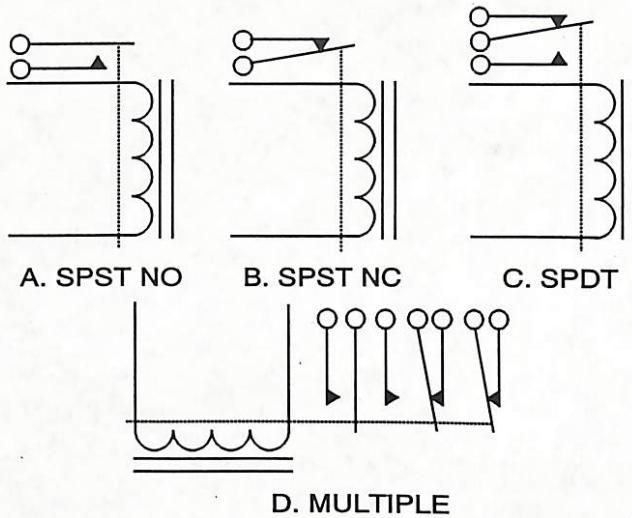

Figure 1. Schematic Symbols
**Symbols.** Relays are represented by schematic symbols as shown in Figure 1. Figure 1-A shows a single-pole, single-throw (SPST) relay with the contacts normally open (NO). Figure 1-B shows a SPST relay with the contacts normally closed (NC). When current flows thru the coil, the contacts open. Figure 1-C shows a single-pole, double-throw (SPDT) relay with one contact NC and one NO. This type of relay is used to transfer current from one circuit to another. A single relay may have multiple poles with any combination of opened or closed contacts (refer to Figure 1-D).
The relays shown in Figure 1 are in the de-energized (unmagnetized) condition; no current is flowing through the coil. In all schematic diagrams you will see, the relays are always shown in the de-energized condition unless otherwise indicated.